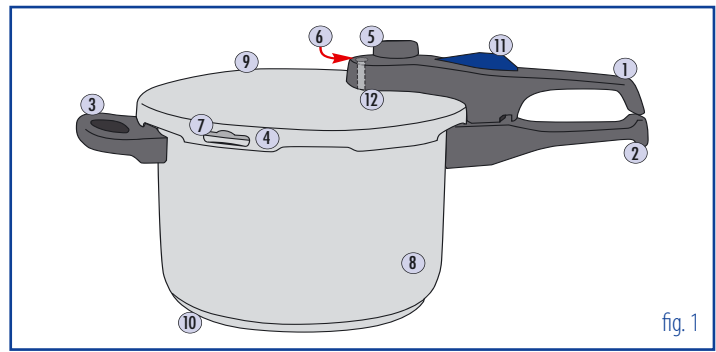

fig. 1
If the pressure increases too much, the rubber seal is pushed out through an opening in the edge of the lid (fig. 1: ⑦) and the pressure can escape (see fig. 3).